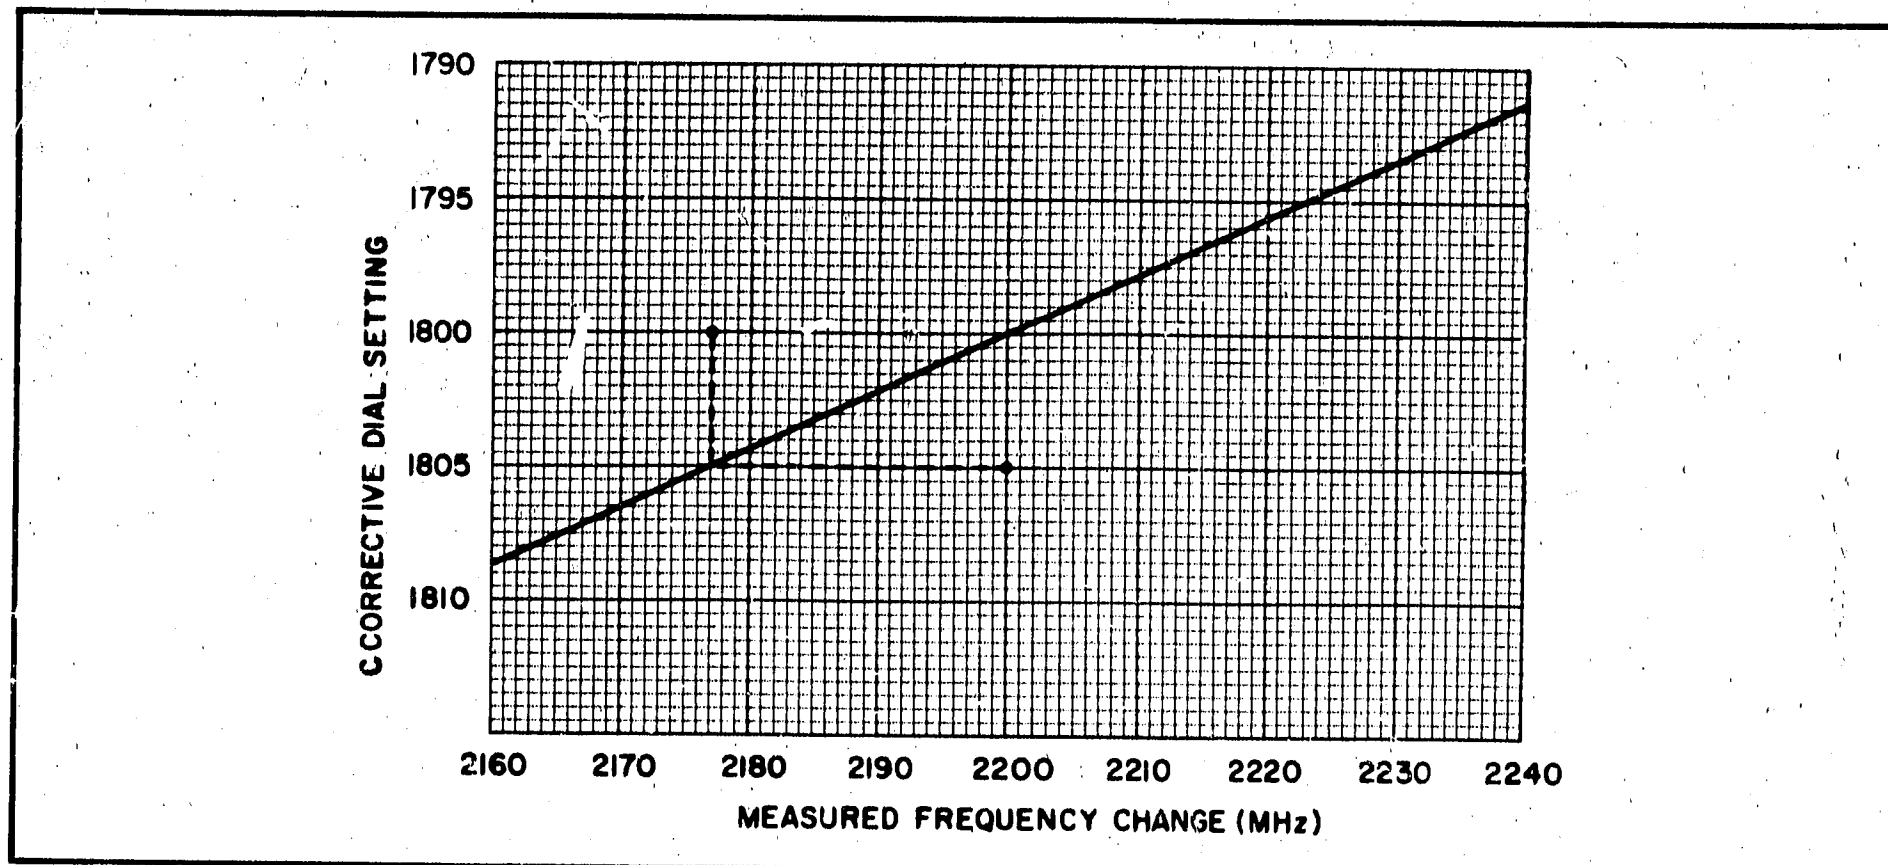

Figure 5-6. Frequency Tracking
c. Refer to graph, Figure 5-6. The horizontal axis represents the measured frequency change from step b, the vertical axis indicates the dial corrective setting. For example, if the difference between dial settings (step b) is 2177 MHz, the corrective setting for the dial as found on the graph is 1805 MHz. To make the corrective setting, set the frequency dial to 1800 MHz, loosen the two setscrews that clamp the dial plunger to the rack, shift the dial to 1805 MHz, and then tighten the two setscrews.